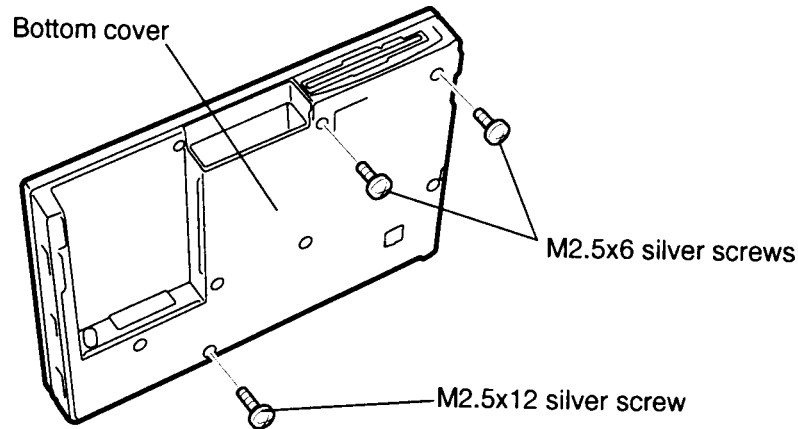

Figure 4-29 Removing the screws securing the base assembly
- Stand the T4850CT on its back and grasp the computer with your hand covering the base assembly. While holding the computer with one hand to steady it and to protect the base assembly, remove **two M2.5x6 silver screws** and **one M2.5x12 silver screw** on the bottom of the computer (Figure 4-29).
6. Secure the **two M2.5x6 silver screws** and **one M2.5x12 silver screw** on the bottom cover (Figure 4-29).